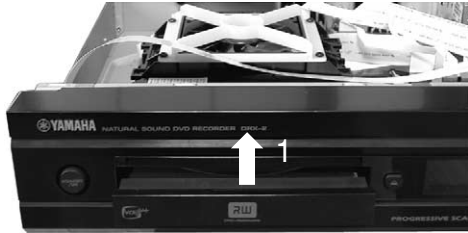

Fig. 1
- a. After removing the top cover, remove tray lid 70. (Fig. 1)